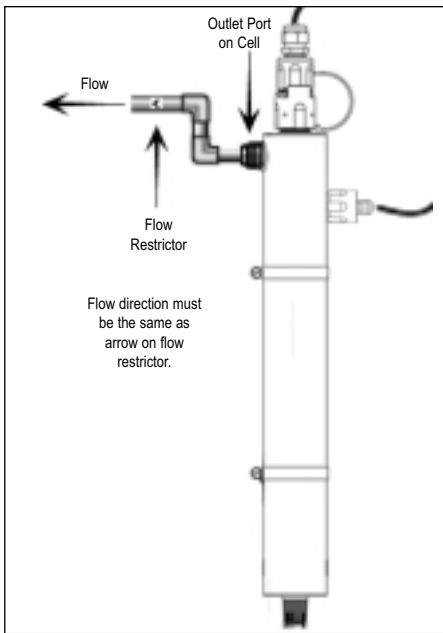

Figure 1C
3. Mount the system to the wall using the supplied clamps. Various connection methods can be used to connect the water source to the system, however union type connectors are recommended. The use of a flow restrictor device is strongly recommended when installing your system in order to maintain the manufacturers rated flow rate. The flow restrictor should be installed on the outlet port and is designed to be installed in one direction only. Ensure that the flow of the water matches the flow direction as indicated on the flow restrictor (Figure 1C). **DO NOT SOLDER CONNECTIONS WHILE ATTACHED TO THE SYSTEM AS THIS COULD DAMAGE THE O-RING SEALS.**